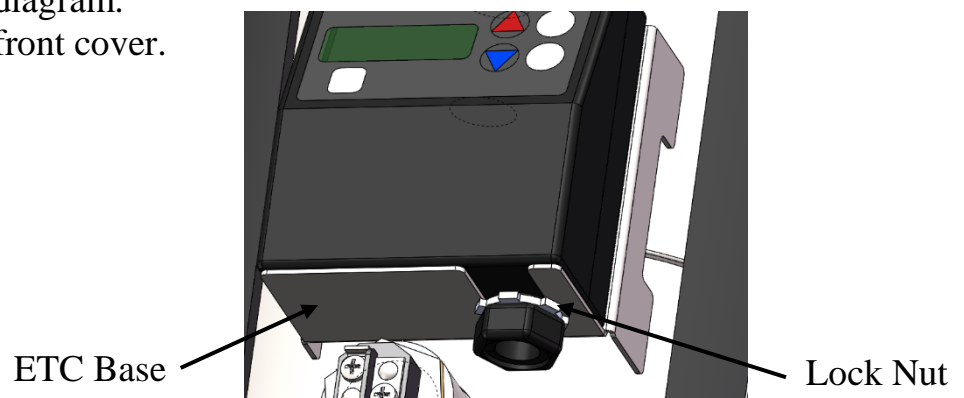

Figure 14 - Electronic Temperature Controller
4. Loosen lock nut from the base of the ETC and slide the controller off the base, See Figure 14 below.